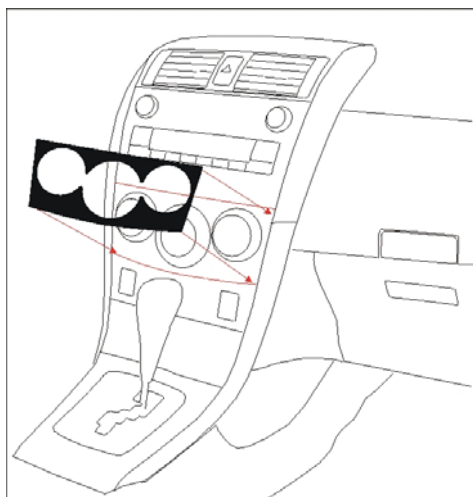

Fig. 5-1
- (b) Align part uniformly to the Climate Control edges and dial controls. (Fig. 5-1)